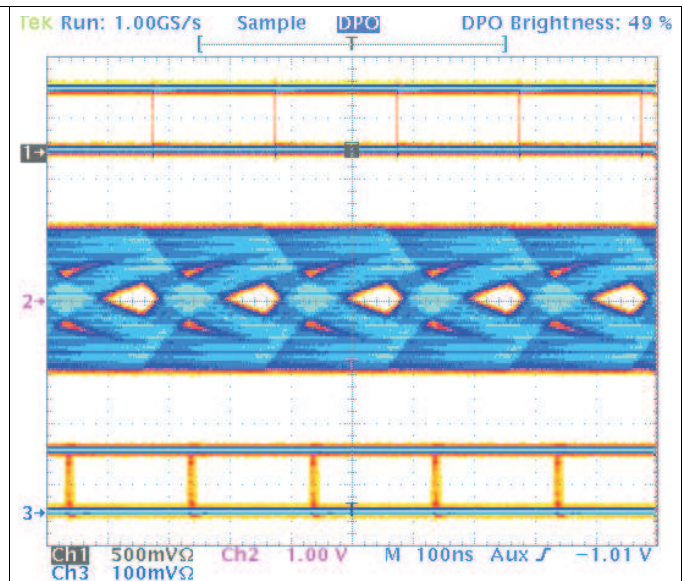

Figure 31. SN65HVD24 Receiver Performance at 5 Mbps Over 500 Meter Cable
**Figure 31** illustrates the benefits of integrated receiver equalization as implemented in the SN65HVD24 transceiver. In this test setup, a differential signal generator applied a signal voltage at one end of the cable, which was Belden 3105A twisted-pair shielded cable. The test signal was a pseudo-random bit stream (PRBS) of nonreturn-to-zero (NRZ) data. Channel 1 (top) shows the eye-pattern of the bit stream. Channel 2 (middle) shows the eye-pattern of the differential voltage at the receiver inputs (after the cable attenuation). Channel 3 (bottom) shows the output of the receiver.